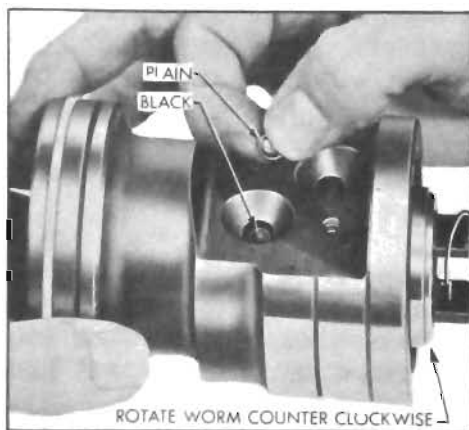

Figure 8-56—Loading Balls in Rack-Piston Nut
4. Align the ball return guide holes in the rack-piston nut with the worm groove. Load 16 balls, 8 plain and 8 black in alternate sequence into the guide hole nearest the piston ring while slowly rotating worm counterclockwise. See Figure 8-56.